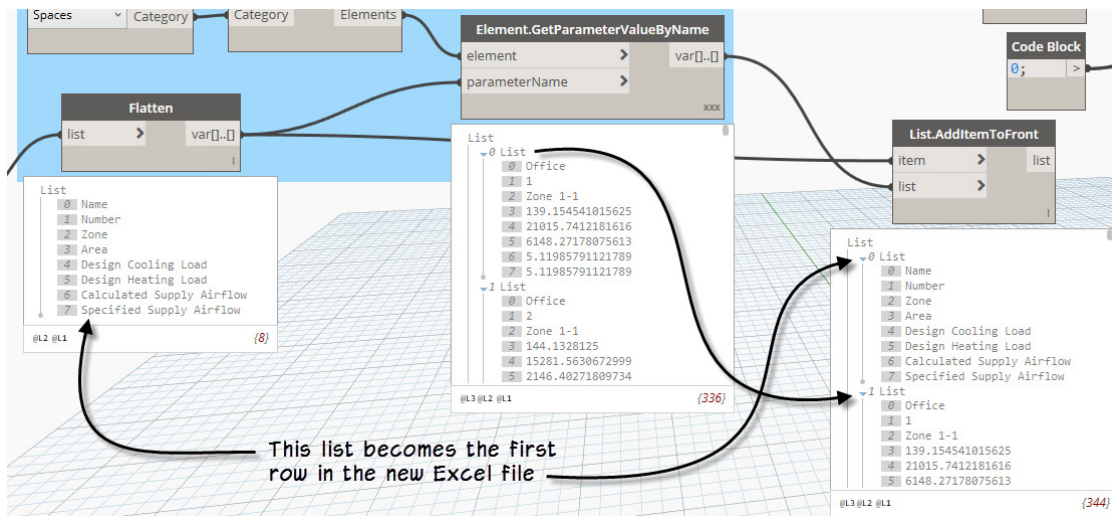

FIGURE 67
30. Expand the Preview Bubble and run the graph (see Figure 67).